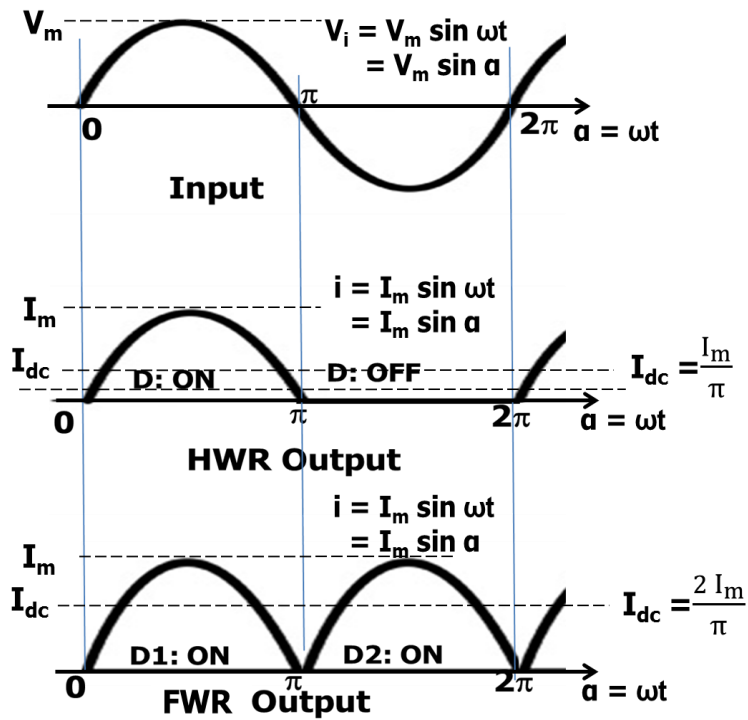

Fig 2.30 Rectifier equations
2.5.3 RECTIFIERS EQUATIONS (Refer fig 2.30)